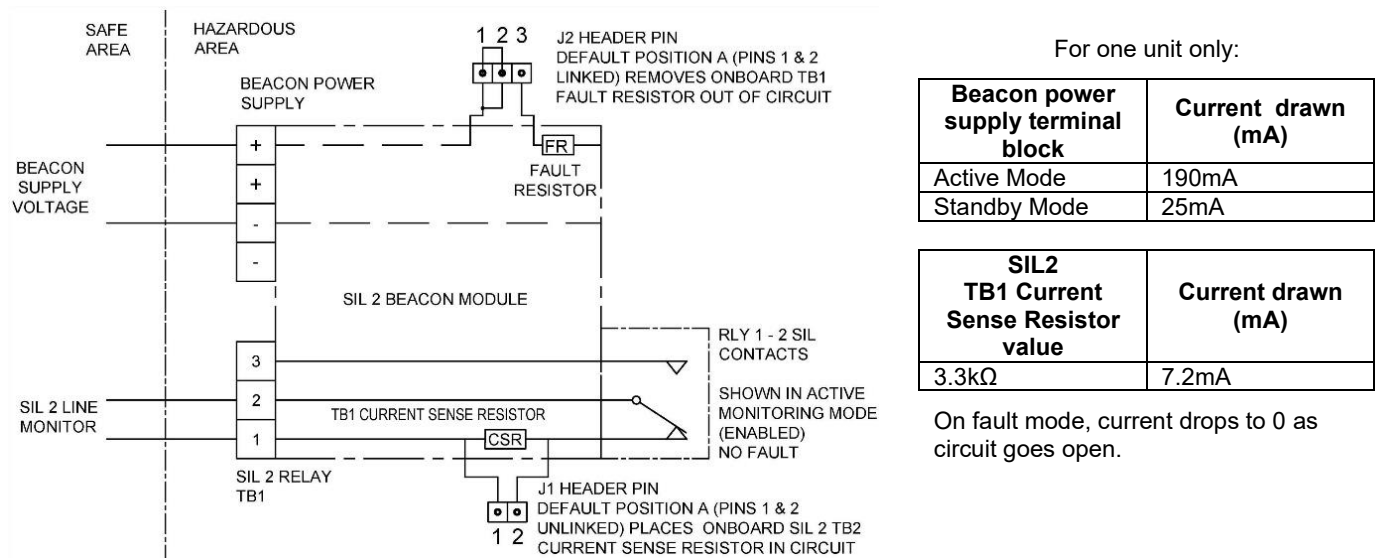

Figure 13: Schematic of SIL 2 system wiring for fault detection in standby and active mode – 4 wire installation.
**Option:** Should the fault event output of RLY1-2 be required to operate as a switch, header J1 can be set to link pins 1 & 2 (see Figure 13) thereby removing the 3.3k Ohm current sense resistor (CSR) from the circuit.